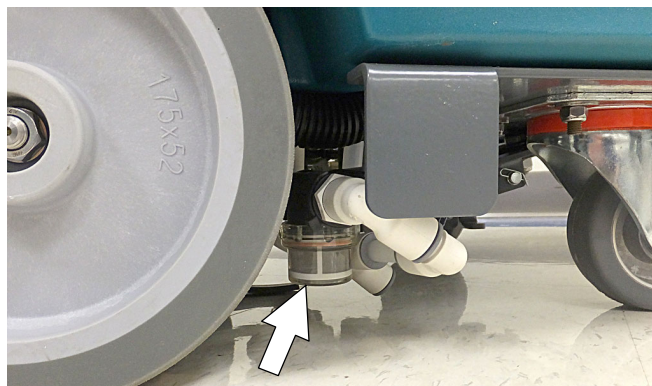

FIG. 136
2. Empty the water from the solution tank filter located under machine. Replace filter (Figure 136).